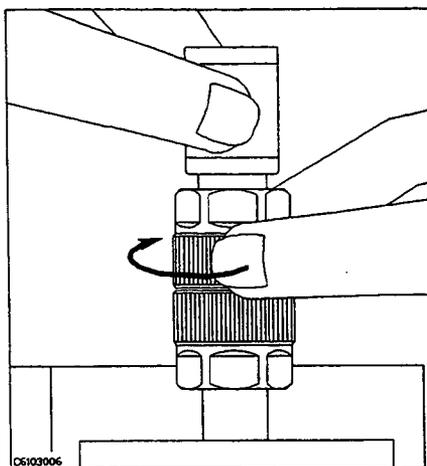

Figure 4-11.
13. Connect the $50\ \Omega$ termination on the APC-7[®] connector as shown in Figure 4-11.